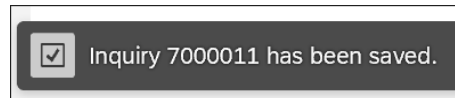
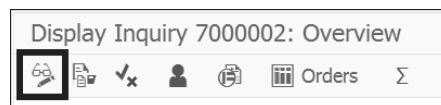

Figure 4.27 Inquiry Saved Message with Document Number
Figure 4.28 Display/Change Icon
The message shown in Figure 4.27 should appear with your inquiry document number on the status bar in the lower-left corner of your screen.
- After creating your inquiry document in SAP per the steps in Section 4.3 and seeing the “saved” message (refer to Figure 4.27), you can also display the inquiry by clicking the **Display** icon in the same screen, as shown in Figure 4.28.
- This navigates directly to Transaction VA13 (Display Inquiry), where you can see the inquiry in display mode, meaning that all fields can be viewed but not amended. Switch to change mode by clicking the **Change** icon again, as shown in Figure 4.28.